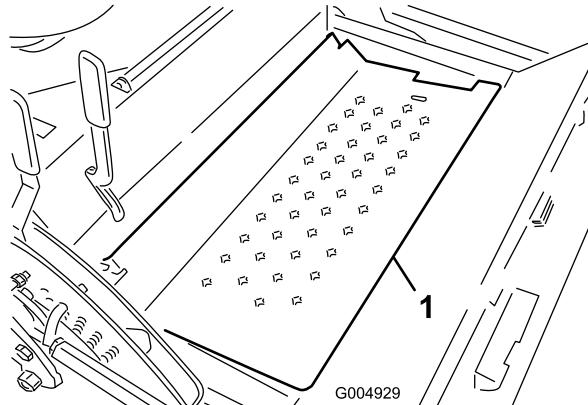

Figure 35
5. Pivot open the floor plate (Figure 35) and secure with prop rod.